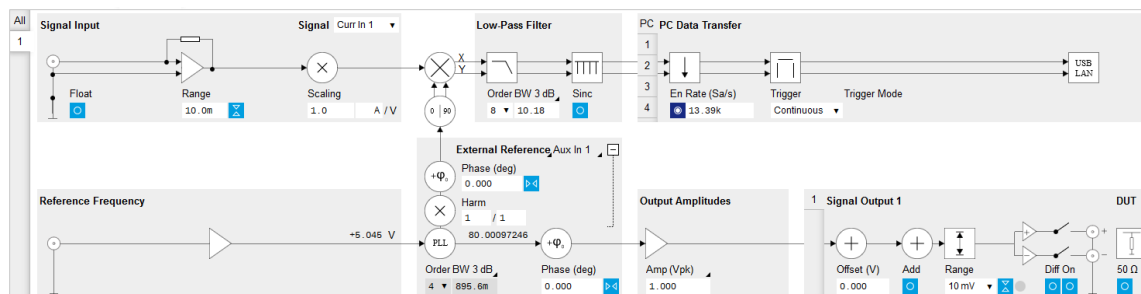

Figure 3.6. Lock-in tab with settings for external reference (without MF-MD option)
**Without MF-MD Multi-demodulator option:** Open the graphical Lock-in tab. In the Internal/External Reference section on the bottom row of that tab, the section label is actually a control which can be toggled between Internal Reference (default) and External Reference. Set it to External Reference. To the right of that control, you can now select the input signal. Select Aux In 1 as the input signal. These settings are also shown in Figure 3.6. The frequency value displayed in the center of the reference section should quickly convert to the 80 Hz of the chopper. The Lock-in settings used to lock to the external reference without MF-MD Multi-demodulator option are shown in the following table.